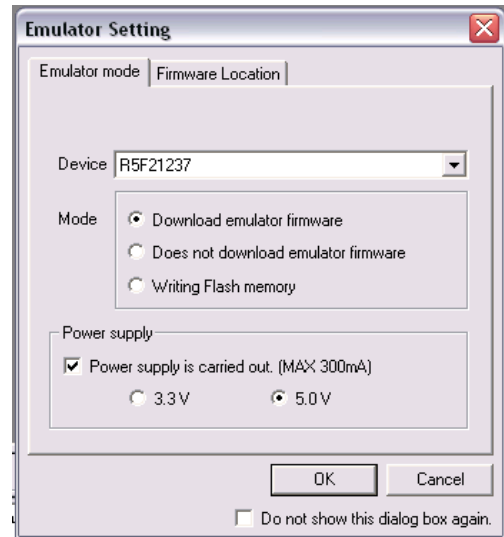

Figure 11: Emulator Mode Selection
- d.) In the “Emulator Setting” window (Figure 11),